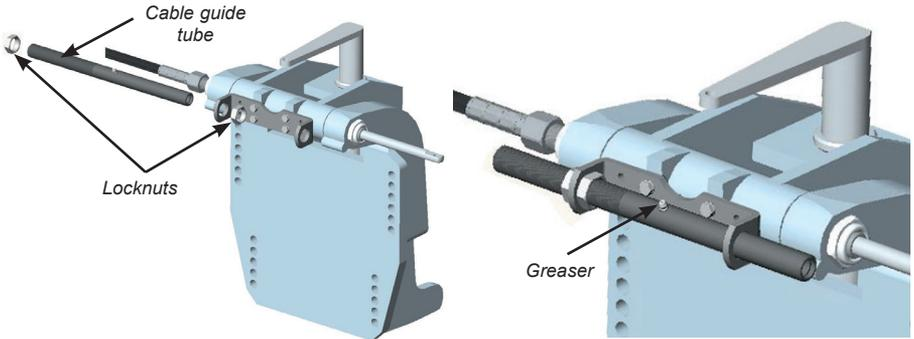

Fig B7 - Fitting the cable guide tube
- ii) Slide the guide tube into the cable mount bracket as shown (Fig B7).